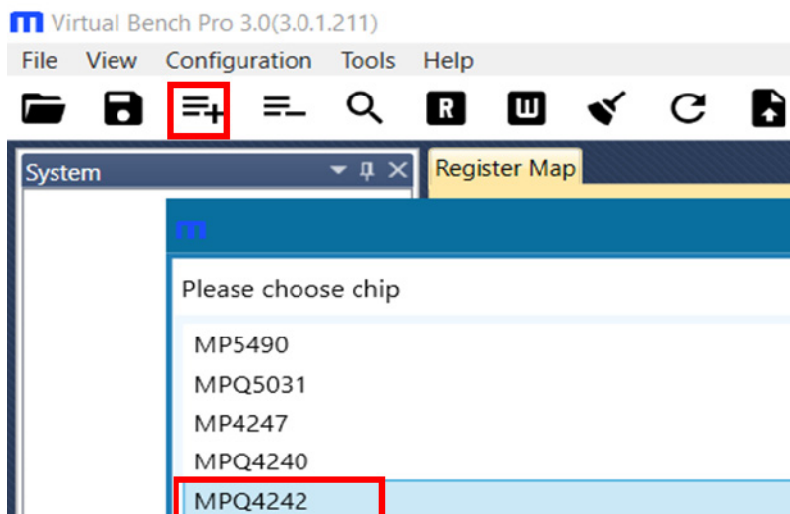

Figure 3: Select the MPQ4242
5. Click “+” and select “MPQ4242” (see Figure 3).